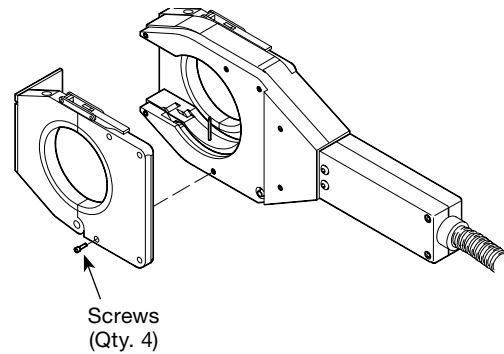

Figure 14 Removing the Left Fixture Side Plate
2. Remove the four screws from the left fixture side plate. See Figure 14.